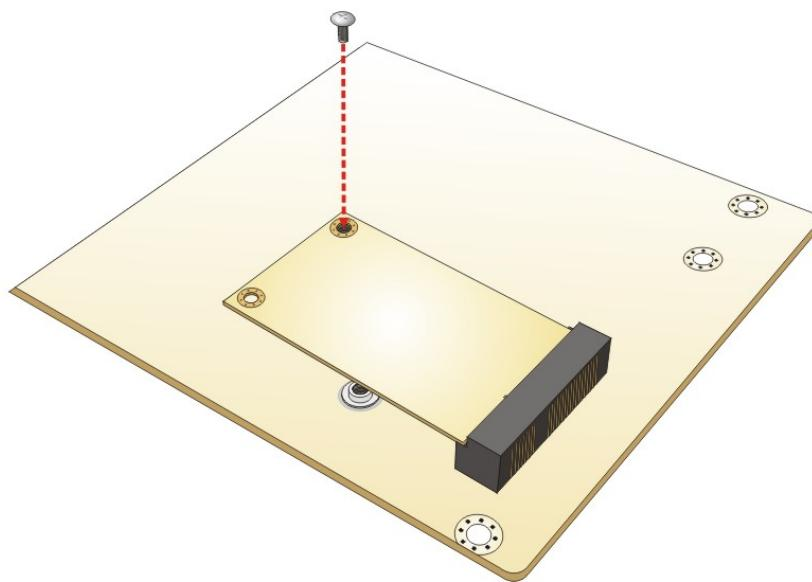

Figure 4-7: Securing the Full-size PCIe Mini Card
**Step 4: Secure the full-size PCIe Mini card.** Secure the full-size PCIe Mini card with the retention screw previously removed (Figure 4-7).